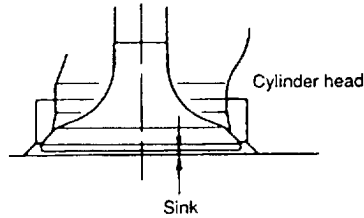

Figure 6-38 Valve sinkage
- 2) Check the valve sinkage (see Figure 6-38). Replace worn out valves (See service limits Table 6-1).